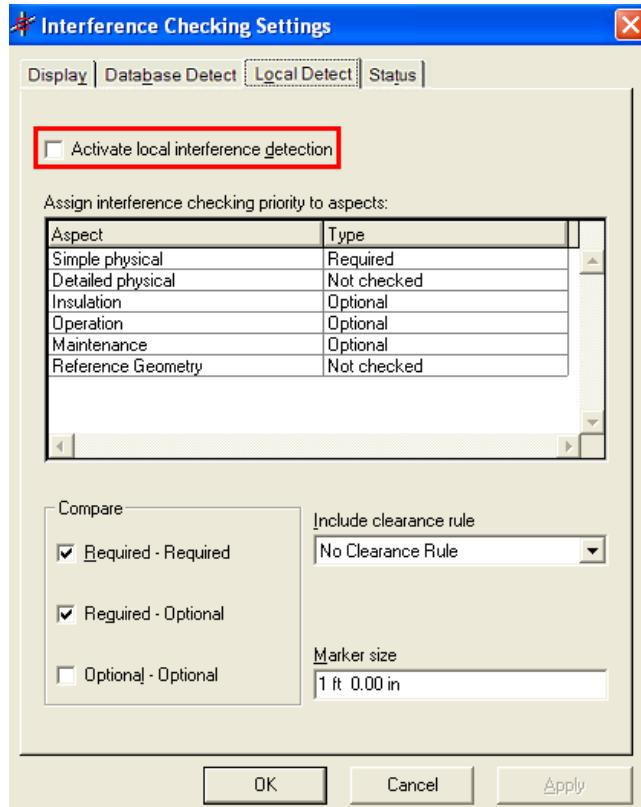

Figure 9: Interference Checking Settings Dialog Box
3. Select the **Activate local interference detection** check box and click **OK** in the **Interference Checking Settings** dialog box to start the **Local Detect** process in your session (Refer to Figure 9).
- It generally best to use the same settings as your administrator for the database detection. The settings shown in figure 9 are typical.